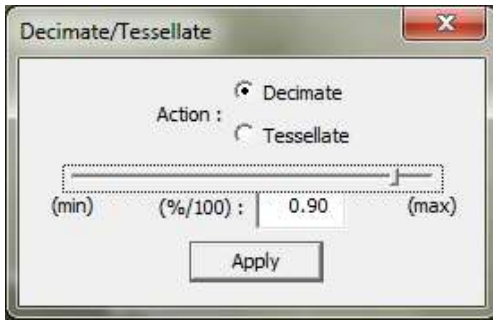

Figure 4 - Decimate/Tessellate dialog)
- Click *Dec/Tes* to display the Decimate/Tessellate dialog (see Figure 4).